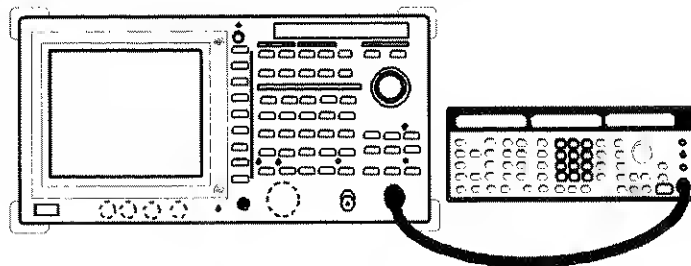

Figure 2-46 Measuring AM Signal in Separate Screen Mode
1. Connect the unit under test as shown in Figure 2-46.